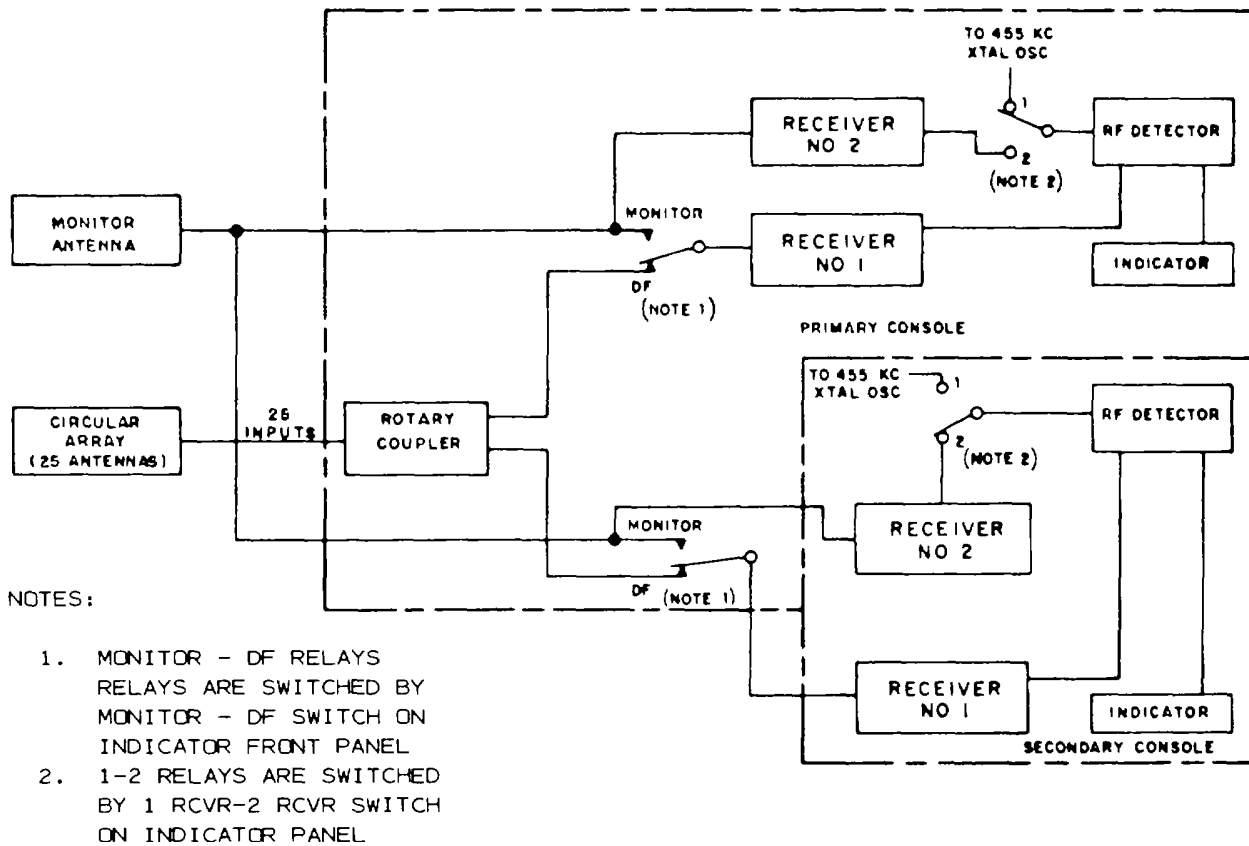

Figure 6-2. Direction Finder Set AN/TRD-15(\*), Block Diagram
d. Figure 6-2 is a block diagram showing the df set in a typical operating configuration.